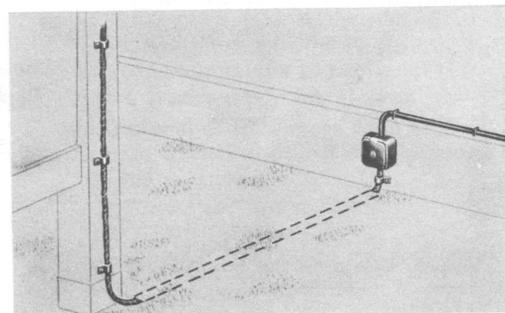

Fig. 6 – Placing Flat Rubber Cordage
6. Strip back, tape, and terminate conductors on a connecting block as shown in Fig. 6.